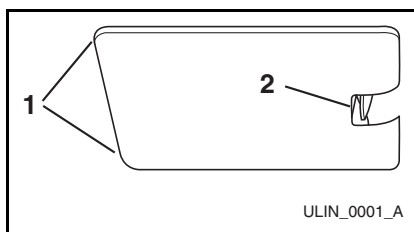

Figure 23
- Grasp the edges of the light housing lens (**Figure 23, 1**) opposite the exposed tab and gently push the lens toward the tab (**Figure 23, 2**).
- Pull the edge of the lens down (**Figure 23, 1**) and swing it out of the light housing.